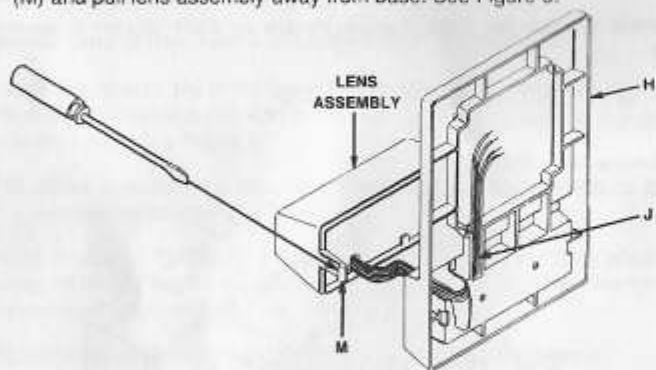

Figure 3
A. Attach the lens assembly to the audible/visible base (H) by placing the four wires from the Flasher or Lamp PC Board into the wiring channel (J) and then snapping the lens assembly into place. See Figure 3.
NOTE: To remove the lens assembly, push a small screwdriver into lens' notches (M) and pull lens assembly away from base. See Figure 3.